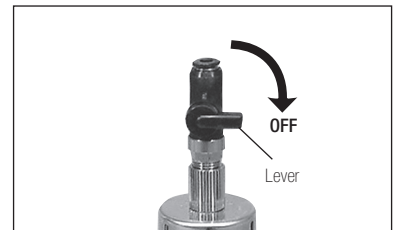

Fig. 1
(1) Turn the ON/OFF Valve lever to the OFF position. (Fig. 1)